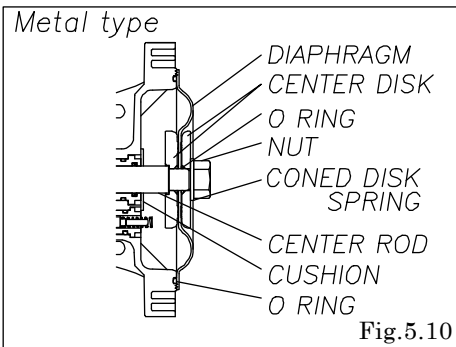
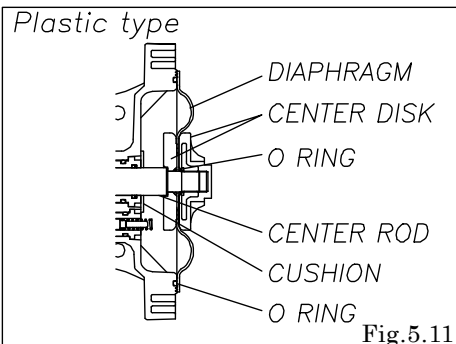

Fig. 5.10
Fig. 5.11
- Attach O ring into the grooves on both sides of the body. [Fig.5.10] [Fig.5.11]